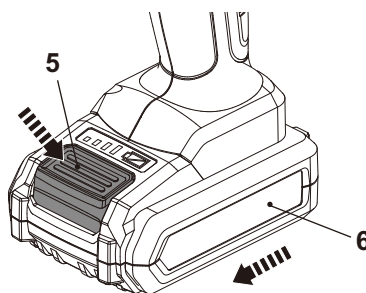

Fig. 2
- > Press the release button (5) and slide the battery pack (6) from the battery docking port (5) (Fig. 2).